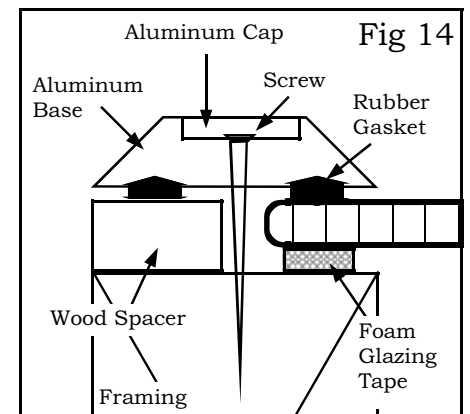

Fig 14
- D. For the sides where the panels will end (**fig 14**):